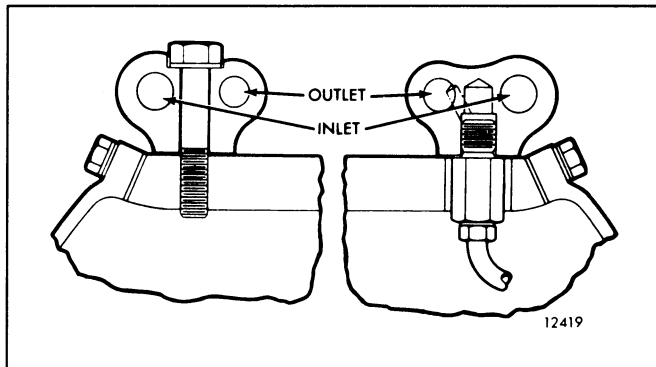

Fig. 2 - Location of Fuel Manifolds on Engine
3. Affix new gaskets to the block and position each manifold assembly, as shown in Fig. 2, on the block. Install the 3/8"—16 x 2" bolts and flat washers and tighten the bolts to 30-35 lb—ft (41-47 N#m) torque.